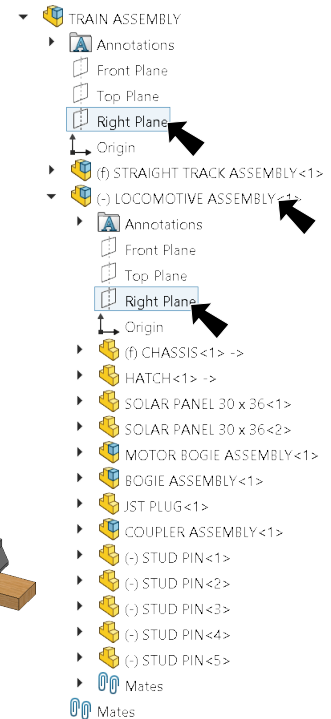

Fig. 6
Step 2. Expand the flyout Feature Manager design tree, expand **Loco** and click **Right Plane** , **Fig. 6**.